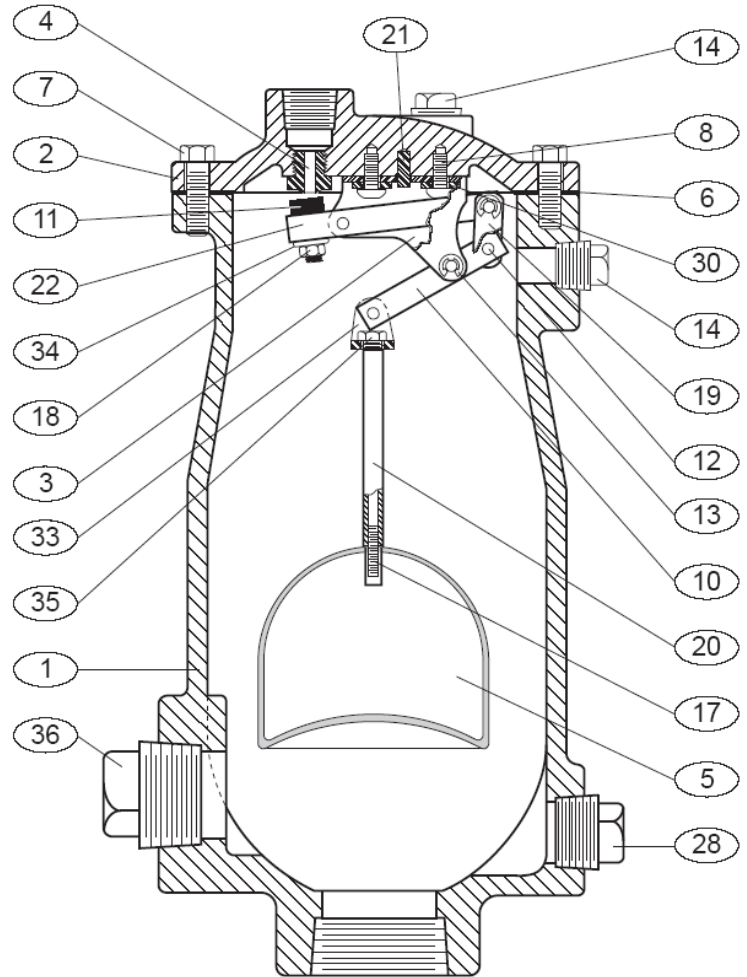

FIGURE 2. WASTEWATER AIR RELEASE VALVE
The standard Wastewater Air Release Valve body and cover are cast iron. See the specific Materials List submitted for the order if other than standard cast iron construction. All internal components are stainless steel with the exception of the orifice button which is resilient. The general details of construction are illustrated in Figure 2. The body (1) is threaded for connection to the pipeline. The seat (4) is threaded into the cast cover (2).
All parts must be cleaned and gasket surfaces should be cleaned with a stiff wire brush in the direction of the serrations or machine marks. Worn parts, gaskets and seals should be replaced during reassembly. Refer to Figure 2 on page 2.